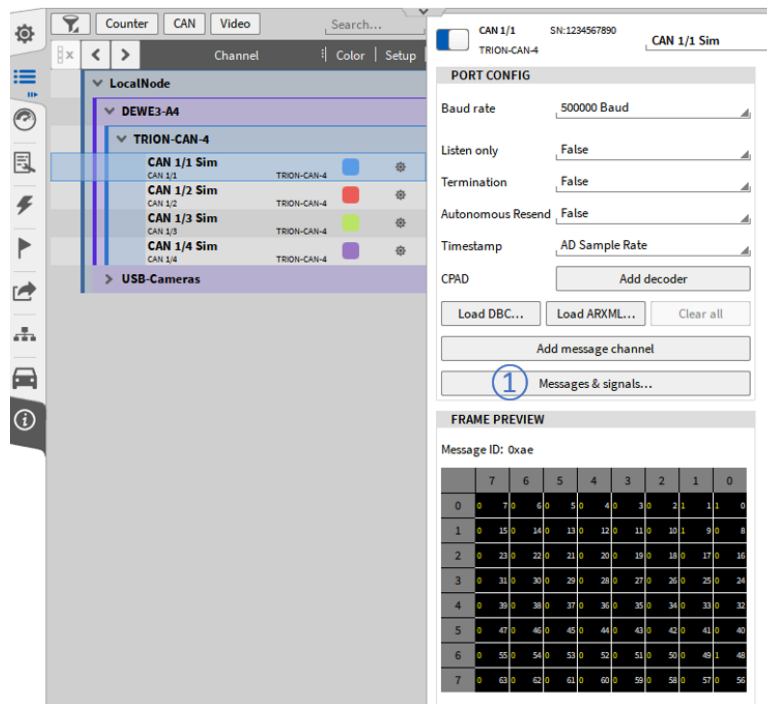

Fig. 7.210: CAN port configuration
Instead of using .dbc or .arxml files for data decoding it is also possible to add CAN messages and signals manually. OXYGEN provides a CAN editor for this purpose which can be opened by pressing the *Messages & signal* button the CAN port configuration (see ① in Fig. 7.210):